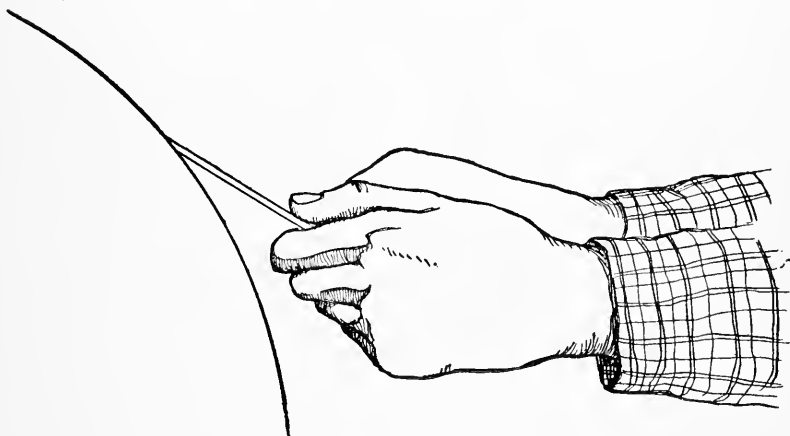

FIG. 35.—Grinding the Plane-iron.
**Plane-irons** are held with both hands, as shown in Fig. 35, and ground the same, except that the corners